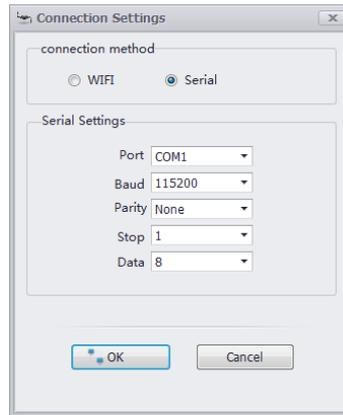

Figure 2-6 Device Connection Settings
1. Select **Device Connect**, and the connection setting dialog box will pop up. As shown in Figure 2-6, there are two connection methods: **WIFI connection** and **Serial connection**.